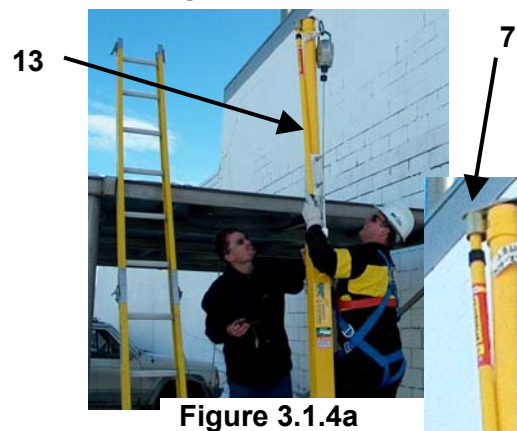

Figure 3.1.4a
Extend the post by removing both pin assemblies (8&9). Using the extension pole (13), insert the pole into the socket on Section 3 align the holes and secure using pin assembly (9), shown in Figure 3.1.4a & b.